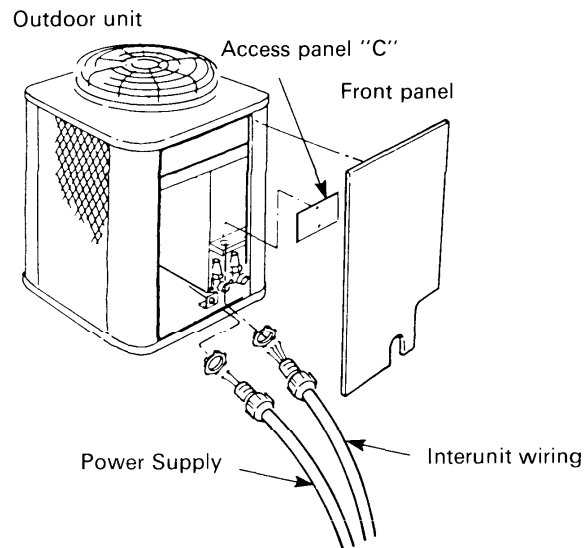

Fig. 7
- Remove access panel "C" and punch knockout holes on the panel. Fig. 7